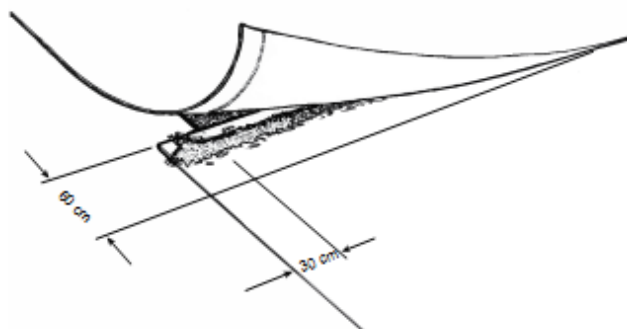

Fig. 9: End-of-panel overlapped seam
6. End-of-panel, bentonite-enhanced, overlapped seams are constructed first by overlapping the adjacent panels, exposing the underlying panel, and then applying a continuous bead or fillet of granular sodium bentonite 30 cm from the edge of the underlying panel (**Figure 9**). The minimum application rate at which the bentonite is applied is 0.4 kg/m.